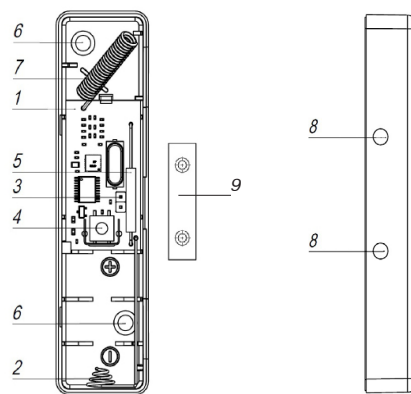

Figure1 – «CN-Magnetic-Mini»
8.1 Arrange the magnet at the side where built-in magnetic contact is located, as it is shown in Figure 1.